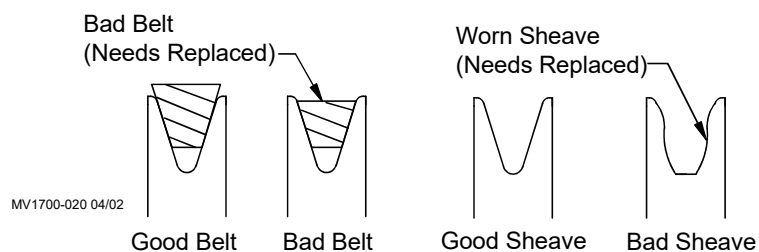

Figure 14. Worn Sheave
- Periodically check the V-Belt and replace if necessary. A bad Belt will cause a substantial drop in Fan performance or can break and cause Fan failure. If a Belt rides below the Sheave edge, replace the Belt. (See Figure 14)